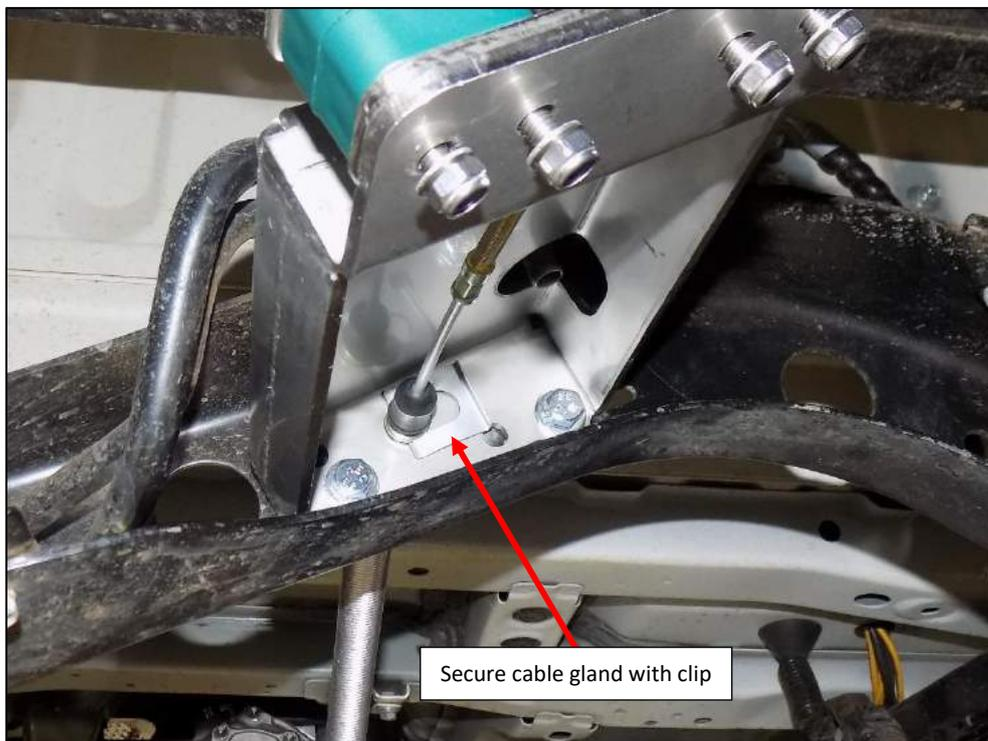

Figure 26
13. Secure the cabin-cable in position using the cable clip (Figure 26).